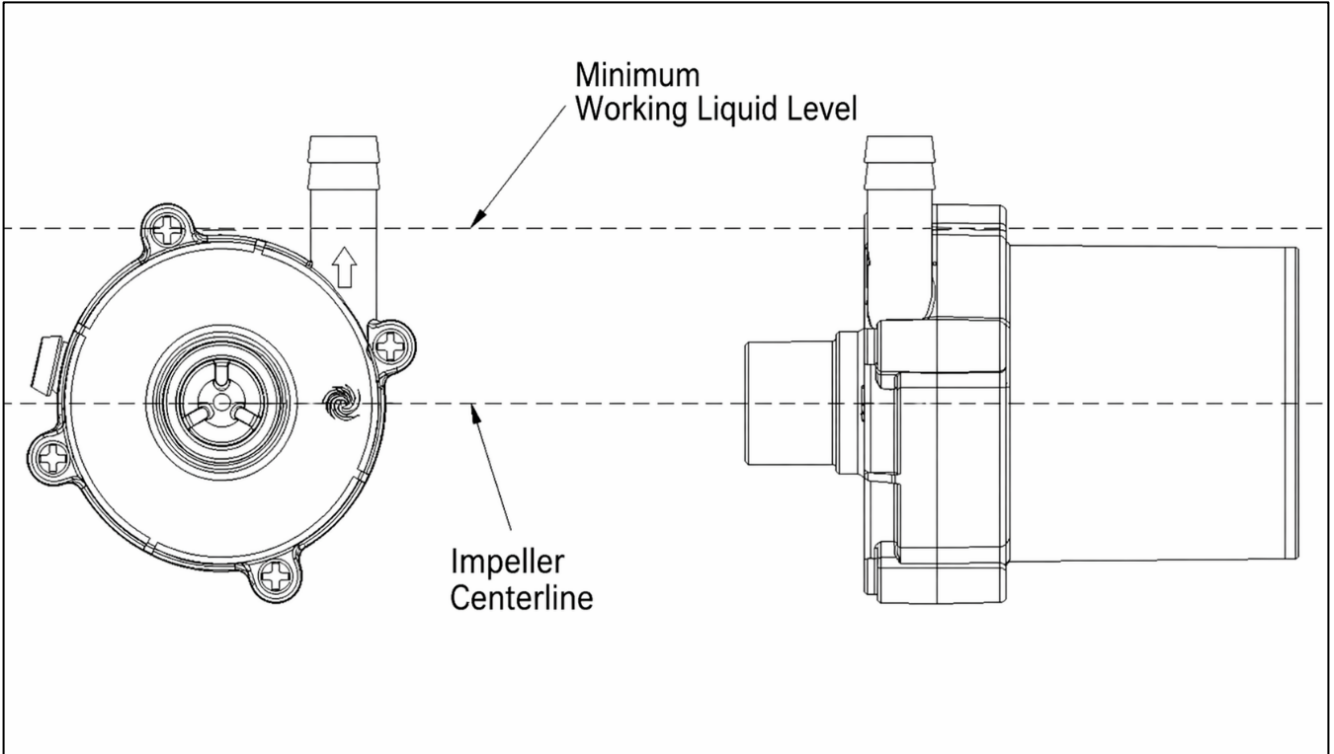

Figure 1
- As shown in the Figure 1 below, during installation it must be ensured that the minimum operating liquid level is above the highest point of the pump chamber.